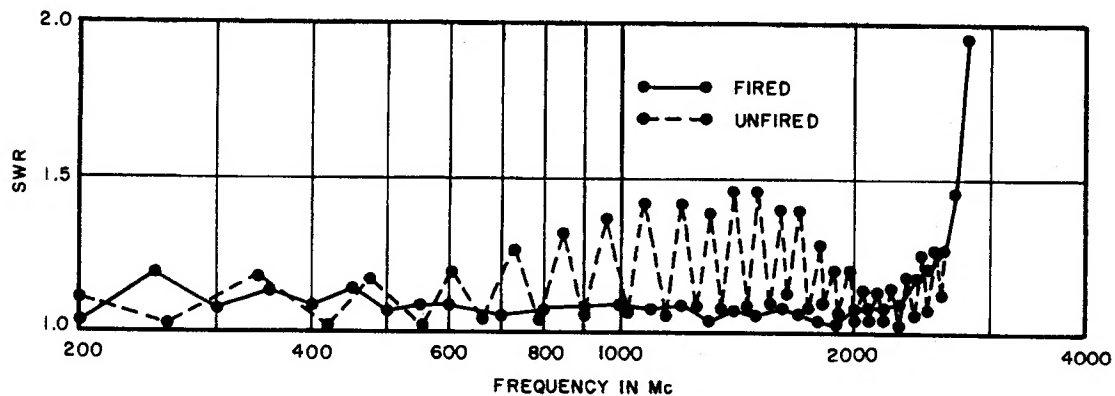

FIGURE 2. TYPICAL SWR (FIRED AND UNFIRED)
* When terminated with a 50-ohm load having an SWR of 1.10 or less (Figure 2).